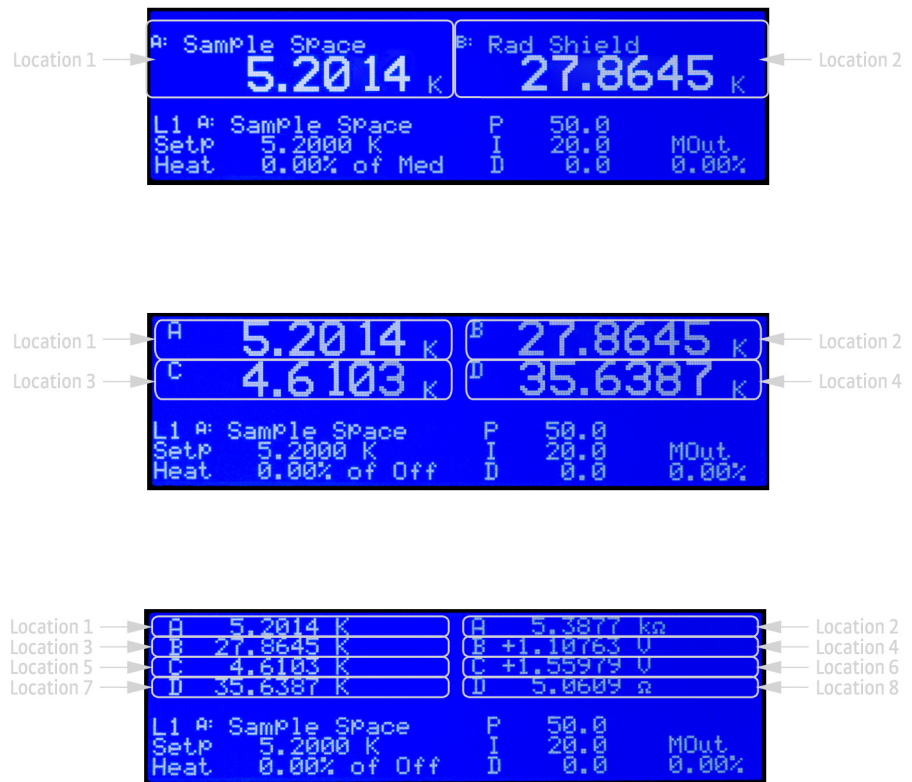

FIGURE 4-5 Top to bottom: Model 350 screen images showing 2, 4 and 8 display locations
- Locations:** depending on the Number of Displays parameter, there can be anywhere from two to eight display locations for displaying sensor readings. The placement of a given display location on the front panel LCD depends on the Number of Displays setting (FIGURE 4-5).